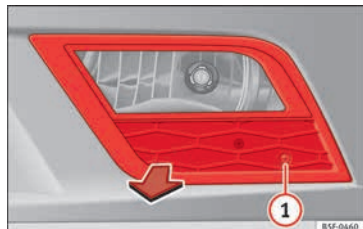

Fig. 104 Front fog light.
- Remove the bolt » Fig. 104 ① from the fog light grille with a screwdriver.